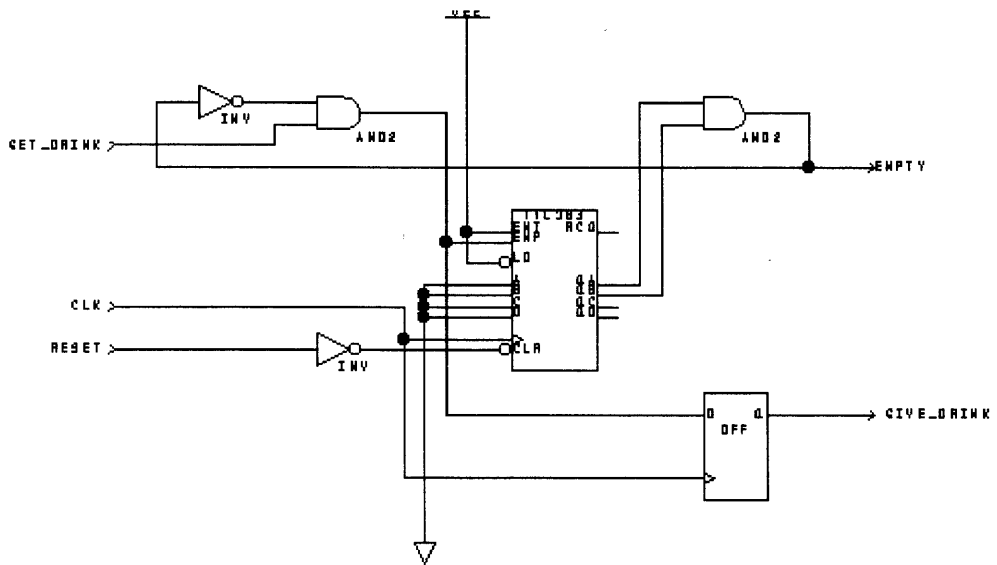

Figure 3-5. Final BINCTR Schematic.
The final circuit should look like Figure 3-5.
- all nets are wired so that the schematic looks **EXACTLY** like Figure 3-5.